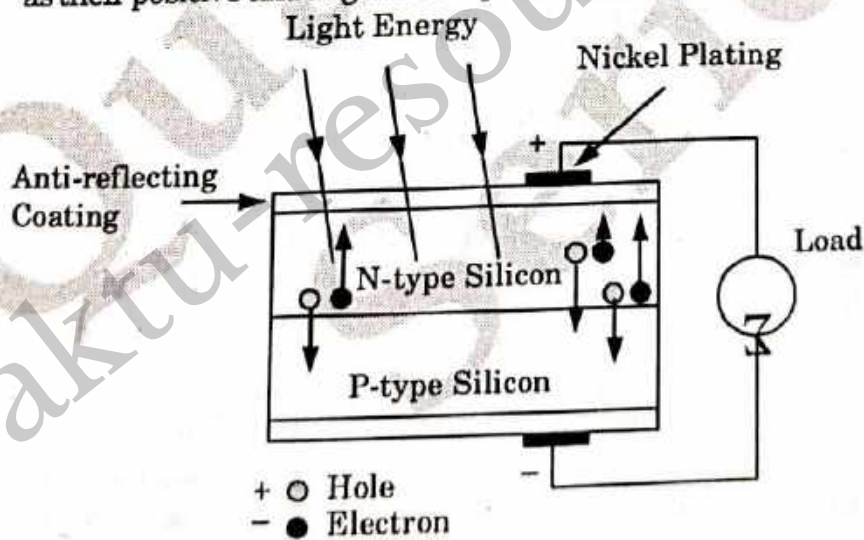

Fig. 1.
- Fig. 1 shows the construction of the silicon photovoltaic cell.